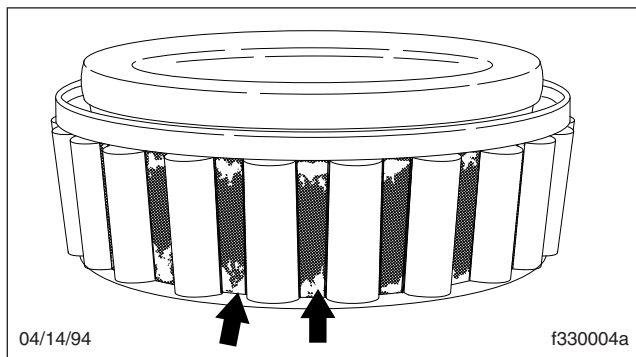

Fig. 7, Rubbing Marks on Bearing Cage
- Bright rubbing marks on the dark phosphate surfaces of the bearing cage. See Fig. 7.